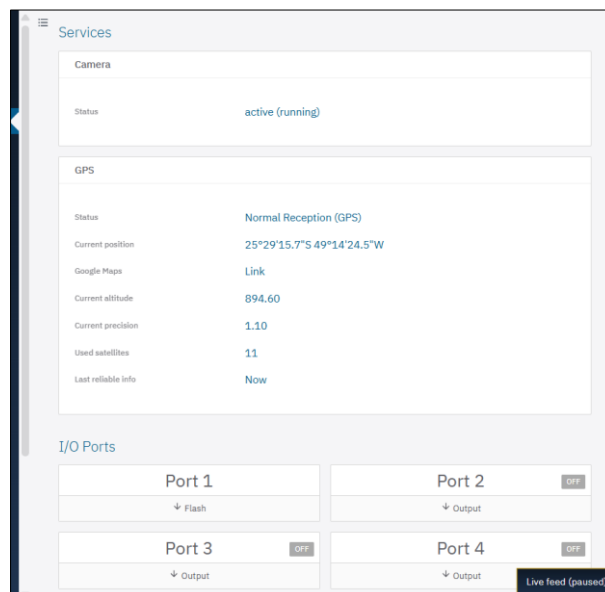

Figure 8 - Available data on the Current Status of Camera and GPS Services* and port connections
* When the device is able to establish communication with a GPS network, the main Geolocation information is displayed as the Figure 8 above.